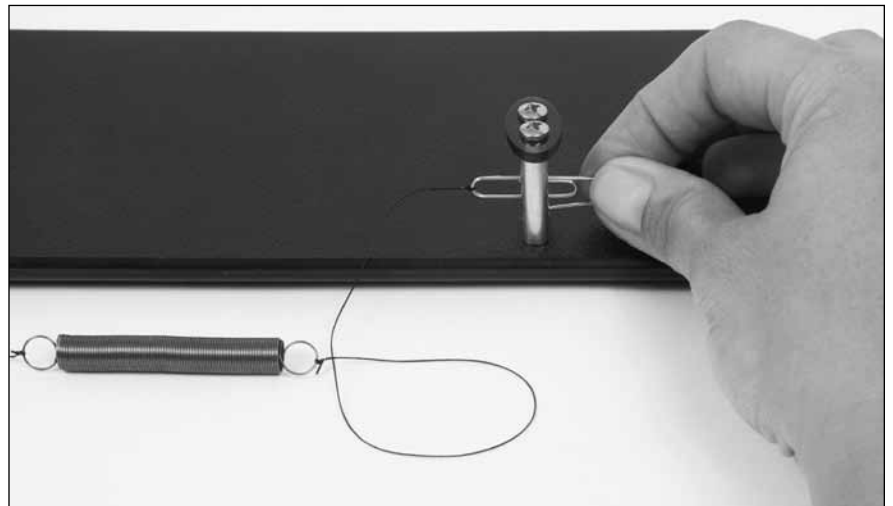

Figure 2
3) Place the spring in the middle of the double posts on the finish plate. Thread one paper clip through a double post on one side (Figure 2). Do the same on the other side with the other paper clip.